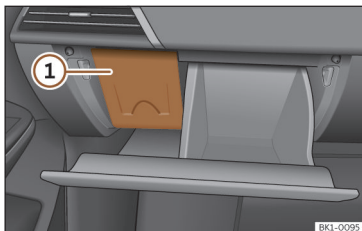

Fig. 186 Right-hand drive vehicles: fuse box cover under the passenger side dash panel.
- Remove the cover from above >>> **Fig. 186** ①.